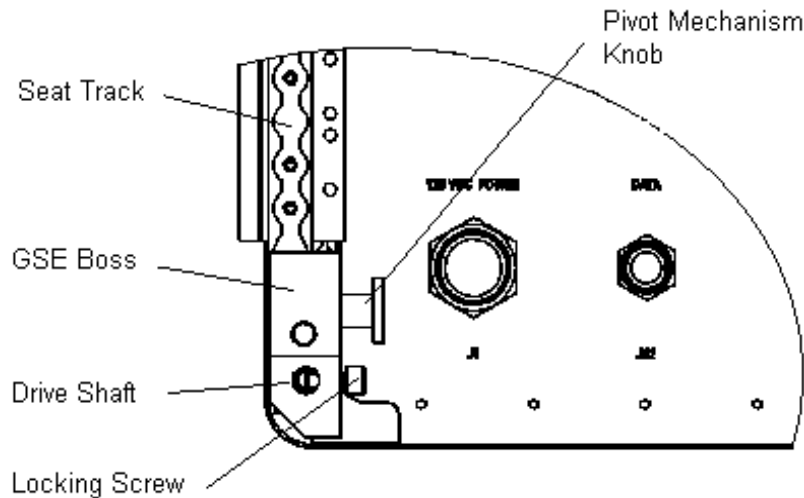

Figure 2.- Lower Attach Mechanism (left side).
2. Loosen left Locking Screw (Ratchet 3/8" Drive, 3/8" Hex Head) 10 --- 12 turns or until Drive Shaft hole is clear. See Figure 2.
3. Disengage left Drive Shaft (Ratchet 3/8" Drive, 3/8" Hex Head) until bolt head is flush with bottom of bolt hole. See Figure 2.
4. Tighten, snug left Locking Screw (Ratchet 3/8" Drive, 3/8" Hex Head). See Figure 2.
6. Tighten, snug both Pivot Mechanism Knobs in unlatched position. See Figure 2.